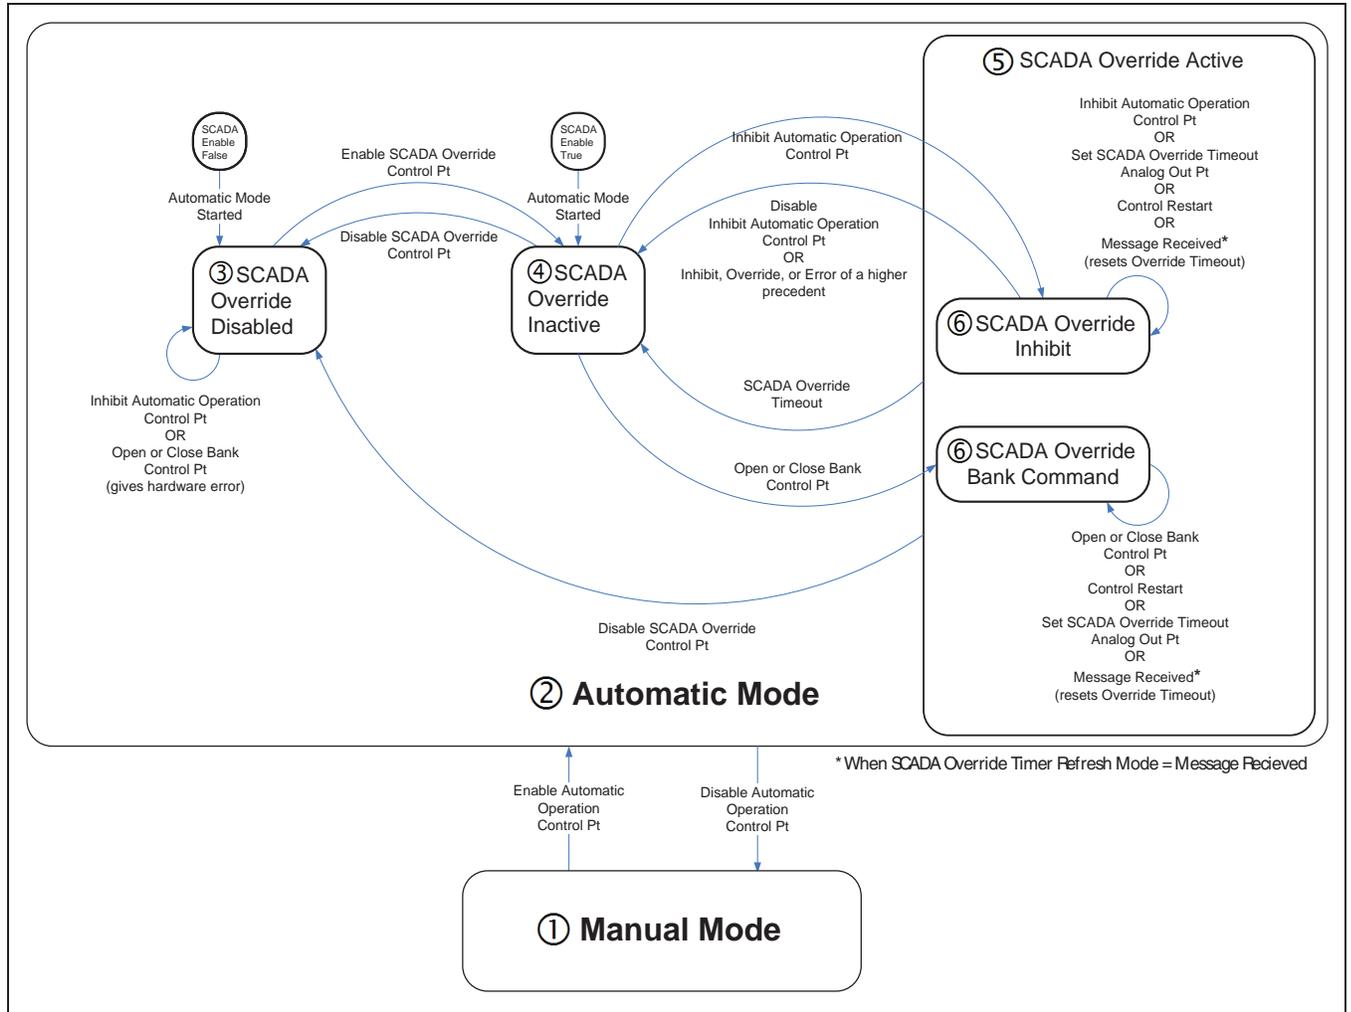

Figure 24. SCADA Override state diagram.
1. **Manual Mode**—In **Manual** mode, the control will not perform any bank operations at all unless commanded by a user through the faceplate, an IntelliLink software command through a serial connection when the control is in **Local** mode, or a SCADA command when the control is in **Remote** mode. As long as the control has not been set to **Local Operation** mode, any SCADA bank operation command may be executed. Bank operation commands will not be inhibited by **Voltage Override** limits or **Neutral Current** or **Voltage Lock-out** conditions. See Figure 24 on page 79.